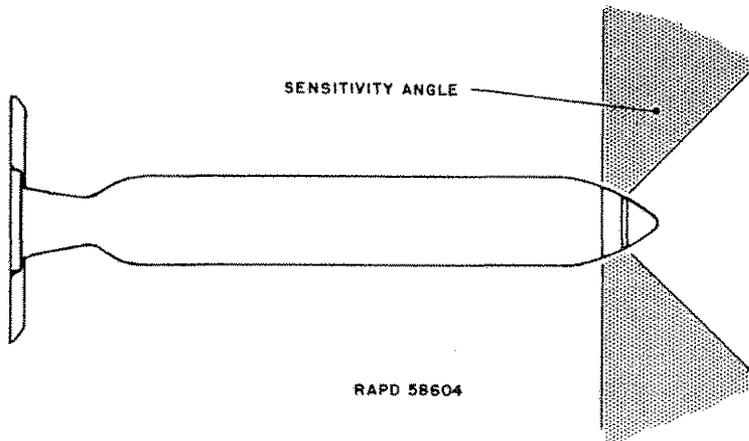

FIG. 3. SENSITIVITY ANGLE OF FUZE T4
(1) The fuze T4 is a photoelectric fuze which functions when influenced by a change in intensity of light. Only light rays or shadows which strike the fuze within its sensitivity angle (shaded angle of fig. 3) can cause the functioning. Prior to arming (which is approximately 1 second time of flight) the fuze is "blind" to changes in light intensity. After it is armed, the fuze functions when it passes into a shadow (below an airplane) or into a reflection from a
(2) The fuze T4 does not function if intensity of light within its sensitivity angle (fig. 3) remains constant. Only changes in light intensity function the fuze after it is armed. This fuze cannot be used before sunrise or after sunset, nor should it be used in fogs or clouds. At altitudes below 10,000 feet the rocket should be aimed slightly (10 feet) below the target.
(3) The fuze will function after arming if fired with the sun shining into its sensitivity angle (fig. 3).